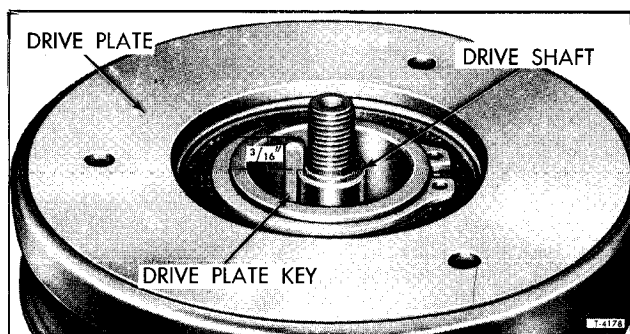

Figure 37-Drive Plate Installed In Keyway
1. Insert the square hub and drive plate key into the keyway in the drive shaft allowing it to project approximately $\frac{3}{16}$ " out of the end of the keyway (figure 37).